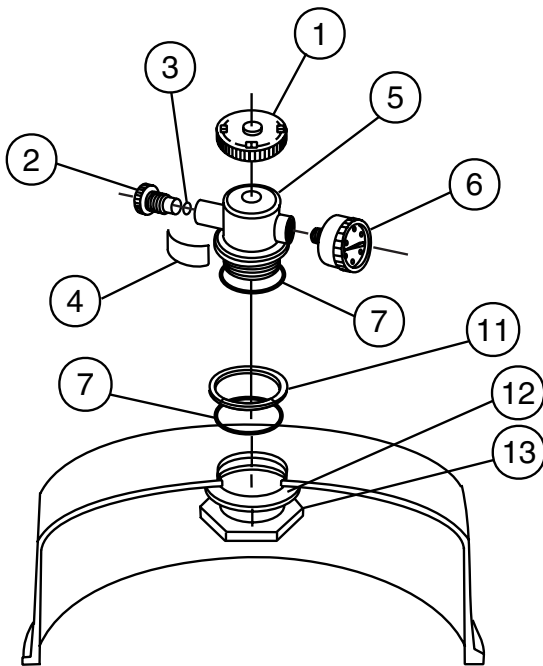

Figure 5.
9. Lightly lubricate o-rings (ITEM 7) with Dow Corning #203 silicone lubricant or similar product, and place them in appropriate o-ring grooves on Air Relief Body (ITEM 5) and Top Spacer (ITEM 11). See Figure 5 for assembly sequence and part location.